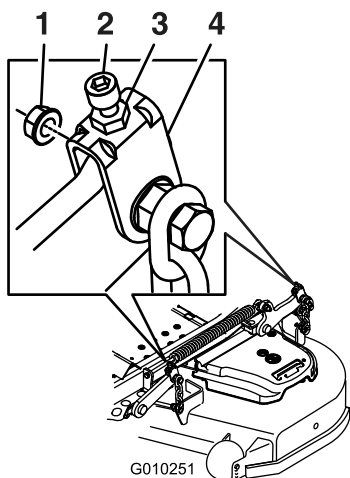

Figure 106
10. Fine-tune the adjustment nut on the front deck-lift assembly by turning it (Figure 106).